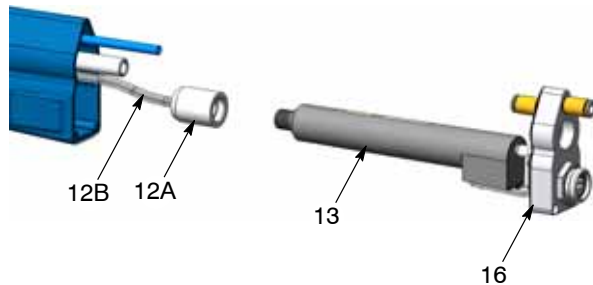

Figure 24 Removing the Multiplier from the Housing and Disconnecting Electrode Cable
2. See Figure 24. Pull the heat sink (16), with multiplier (13) attached, out of the housing. Continue pulling until you can grasp the multiplier nut (12).
3. Unscrew the multiplier nut (12A) and disconnect the electrode cable (12B) from the multiplier (13).
5. See Figure 24. Insert the spring end of the electrode cable (12B) into the multiplier well until it bottoms out, then screw the multiplier nut (12A) down tight.